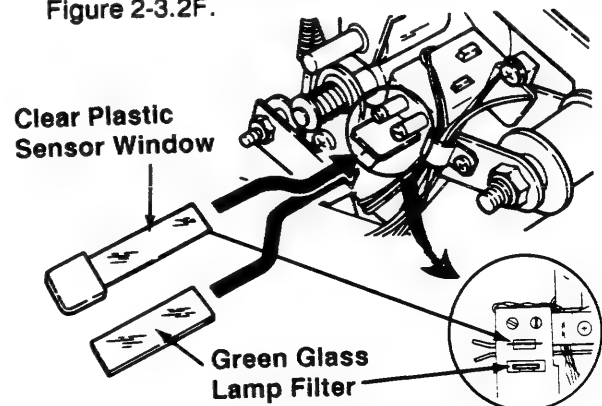

Figure 2-3.2F
18. Install the green Glass Lamp Filter (Item 22). See Figure 2-3.2F.
19. Install the clear plastic Sensor Window (Item 23) above the lamp filter. See Figure 2-3.2F.